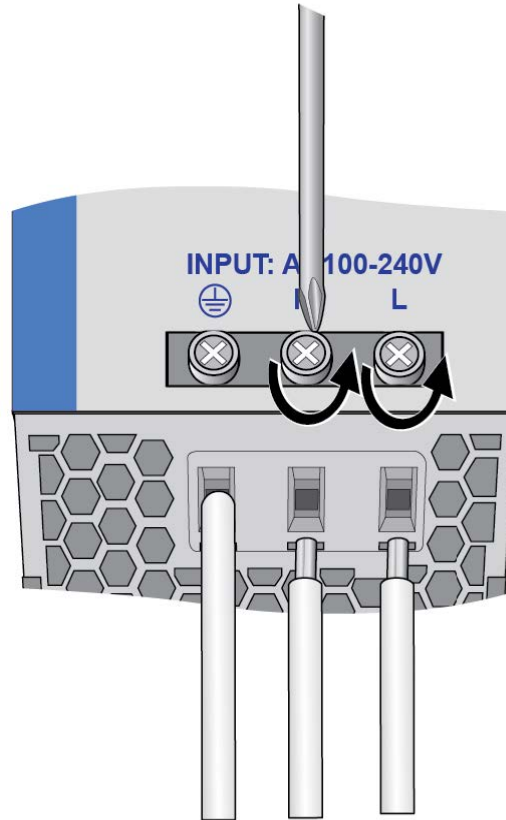

Figure 13. Installing the AC or DC Power Wires
3. Insert the AC or DC power wires into the connectors on the bottom panel. Refer to Figure 13 on page 53.